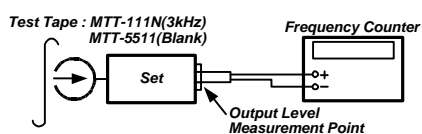

FIG. 1 : Tape Speed & Record Bias Oscillator Frequency Adjust Circuit
13. Outdoor Antenna Grounding - If an outside antenna is connected to the receiver be sure the antenna system is grounded so as to provide some protection against voltage surges and built-up static charges. Article 810 of the National Electrical Code, ANSI/NFPA 70, provides information with regard to proper grounding of the mast and supporting structure, grounding of the lead-in wire to and antenna-discharge unit, size of grounding conductors, location of antenna-discharge unit, connection to grounding electrodes and requirements for the grounding electrode. See Figure 1.